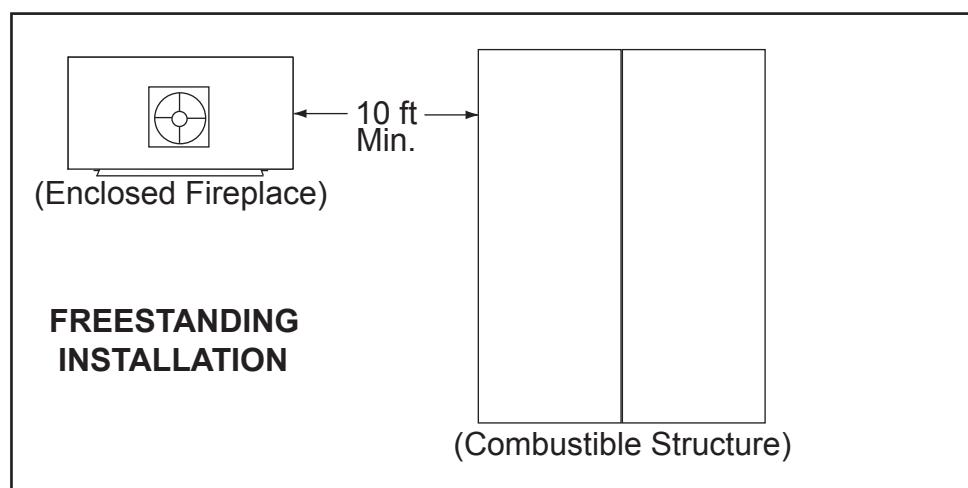

Figure 3.2 Freestanding Fireplace Locations
• Freestanding Installations (see Figure 3.2)
Figure 3.5 shows a typical framing (using 2 x 4 lumber) of the fireplace, assuming combustible materials are used. All required clearances to combustibles around the fireplace must be adhered to. See Figure 3.2. Any framing across the top of the fireplace must be above the level of the top standoffs.
- Minimum overall straight height is **6 ft 4 in. if the fireplace is freestanding** and a minimum of 10 ft from a combustible structure. See Figure 3.2.